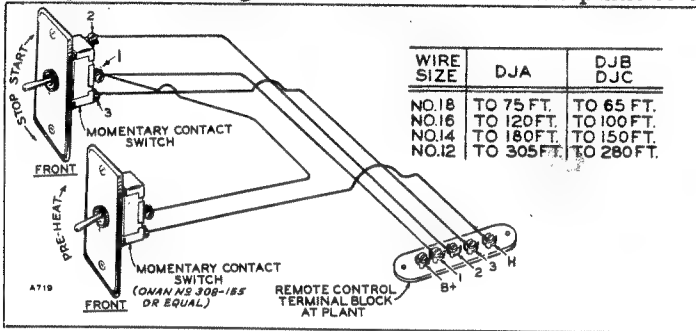

Fig. 5 Remote Start-Stop Switch and Wire Size
**GROUNDING.** - To prevent shock hazard, ground the plant. For permanent installations, connect a #8 or larger wire between (1) a separate ground pipe or rod penetrating into moist earth, and (2) the solderless connector on the side of the generator or, on models not so equipped, the battery ground stud on the engine.
**REMOTE START-STOP SWITCH (OPTIONAL).** - For remote control of starting and stopping ("Remote" type AC plant) use four wires to connect two remote switches to the terminal block in the control box marked B+, 1, 2, 3, H as shown in fig. 5. One switch is for starting and stopping and the other for pre-heating the engine before starting. Use momentary contact, center-off type switches. One should be single pole, single throw (SPST). Remove the jumper wire between terminals 3 and H before installing the remote wires. Use the correct wire size as shown in fig. 5 according to the distance from the plant to the switches.